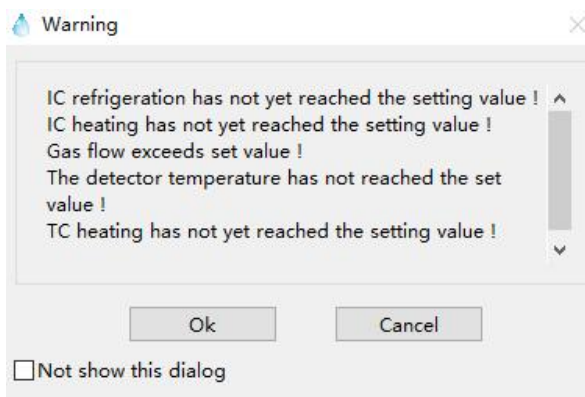

Fig 4.84
Step 4: Manually place the sample on the base of the sample bottle and select the row where the sample is located, click  to start the measurement. The system will give a prompt (Fig. 4.84) if the current testing conditions do not meet the requirements. Click 'Cancel', wait the conditions to be stable, then click  and there is no warning prompt popped up again. The instrument starts the cleaning process, and user can view cleaning progress to check whether the cleaning is complete.